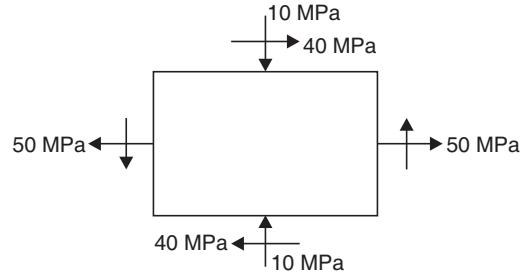

FIGURE 8.28
1. For the state of plane stress shown in Fig. 8.28, the maximum and minimum principal stresses are: